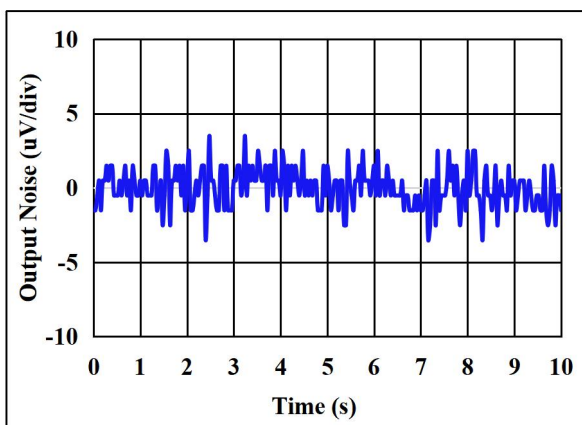

Figure 3-5 0.1-10Hz Voltage Noise
**0.1-10Hz noise.** Low-frequency  $V_{REF}$  noise is specified over the 0.1-10Hz bandwidth as a peak-to-peak value (in  $\mu V$  or ppm). The 0.1-10Hz noise is mainly due to the flicker ( $1/f$ ) noise of the devices and resistors in the bandgap cell, and therefore its amplitude is linearly associated with  $V_{REF}$ . 0.1-10Hz noise of TPR70ULTC is illustrated in Figure 3-5.